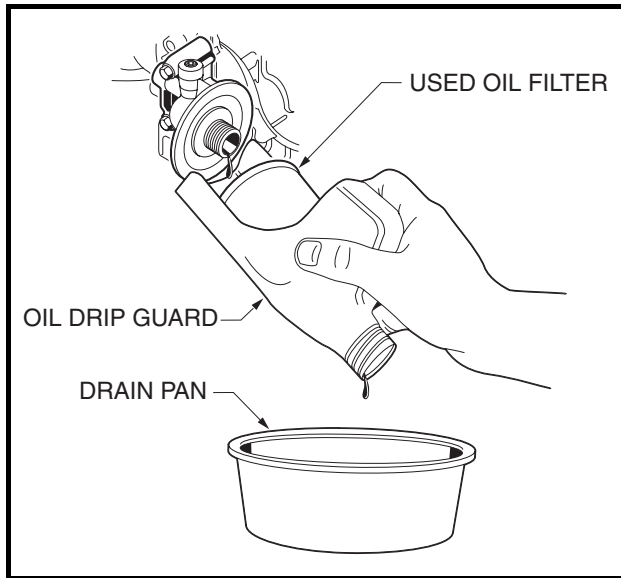

Figure 24 Remove Engine Oil Filter
**NOTE:** An oil drip guard can be used to prevent excess oil from dripping onto the engine base plate. Use an empty quart (one liter) container and cut the bottom off at an angle, then slide the open area of the container up and under the oil filter before removal. Position the port of the plastic container so oil will be directed into the oil pan (**Figure 24**). A drip guard can be made by folding a piece of cardboard, thin metal, or plastic under the oil filter, forming a channel to direct the filter port oil into the drain pan.